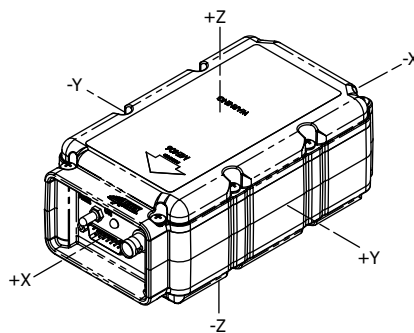

Figure 25 ELT Orthogonal Axes
- (1) ACR Electronics recommends installation of the ME406HM ELT in helicopters. The ME406HM ELT is equipped with a 5-axis G-switch module in addition to the usual primary G-switch, which is oriented to the direction of flight. See Figure 25 ELT Orthogonal Axes.